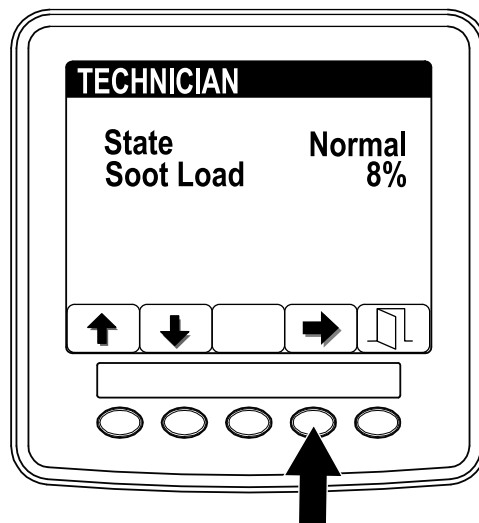

Figure 39
2. Press the button 4 to select the Technician entry (Figure 39)
- Use the DPF operation table to understand the current state of DPF operation (Figure 39).